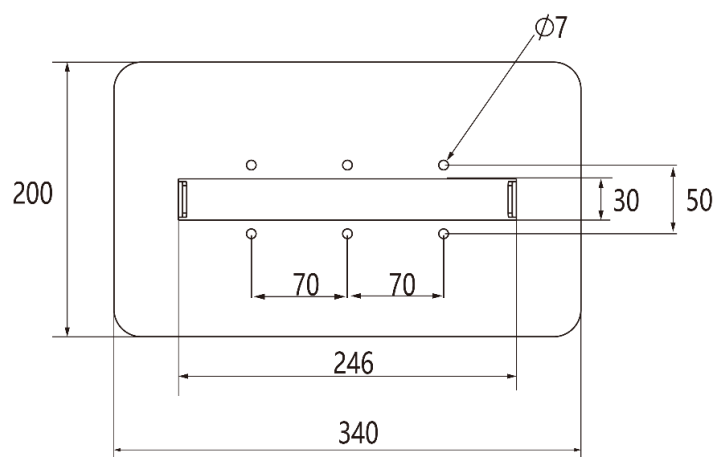

Figure 5.3.1 Construct Foundation for Pedestal Charger
- When preparing the foundation base and cabling pay regard to positions of cable through holes and expansion bolts, which was dimensioned in Figures 5.3.1 & 5.3.2